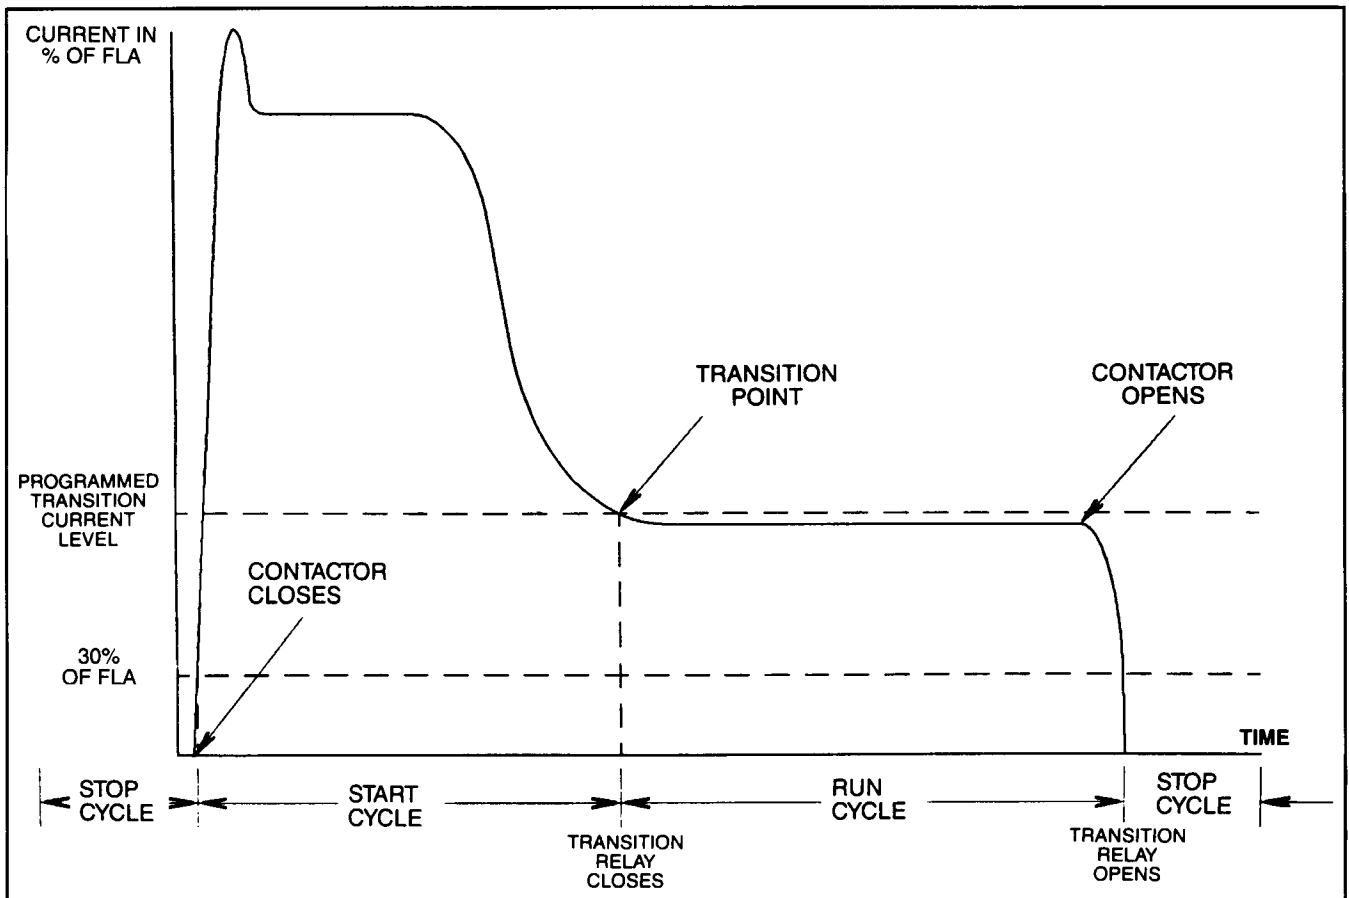

Figure 7.6 — Motor Start and Run Cycles
7.2.1 Start Cycle — The relationship between the IQ-1000 II and the motor current level during a start cycle is shown in Figure 7.6.
7.2.2 Run Cycle — Once the transition occurs, the motor's run cycle is initiated and the message "RUN" is displayed. The run cycle continues until the monitored motor current level falls below 5% of its full-load amperes setpoint (item 42) at which point a stop is declared and the IQ-1000 II returns to the "READY -- 3" or stop mode. (See Figure 7.6.)